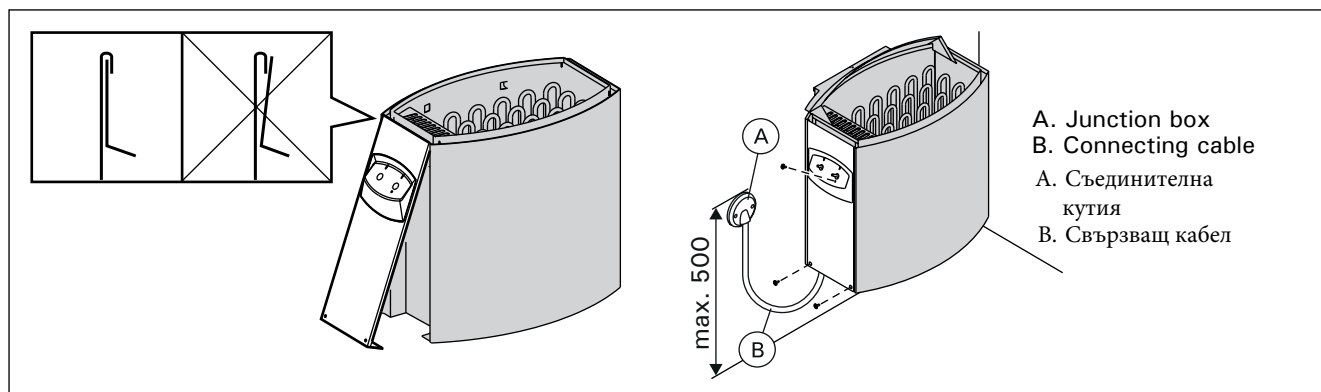

Figure 8. Closing the cover of the connection box (all dimensions in millimeters)
- The heater is semi-stationarily connected to the junction box (figure 8: A) on the sauna wall. The junction box must be splash-proof, and its maximum height from the floor must not exceed 500 mm.
- The connecting cable (figure 8: B) must be of rubber cable type H07RN-F or its equivalent. **NOTE! Due to thermal embrittlement, the use of PVC-insulated wire as the connecting cable of the heater is forbidden.**
- **When closing the cover of the connection box make sure that the upper edge of the cover is placed correctly.** If the upper edge is misplaced water can enter the connection box. Figure 8.